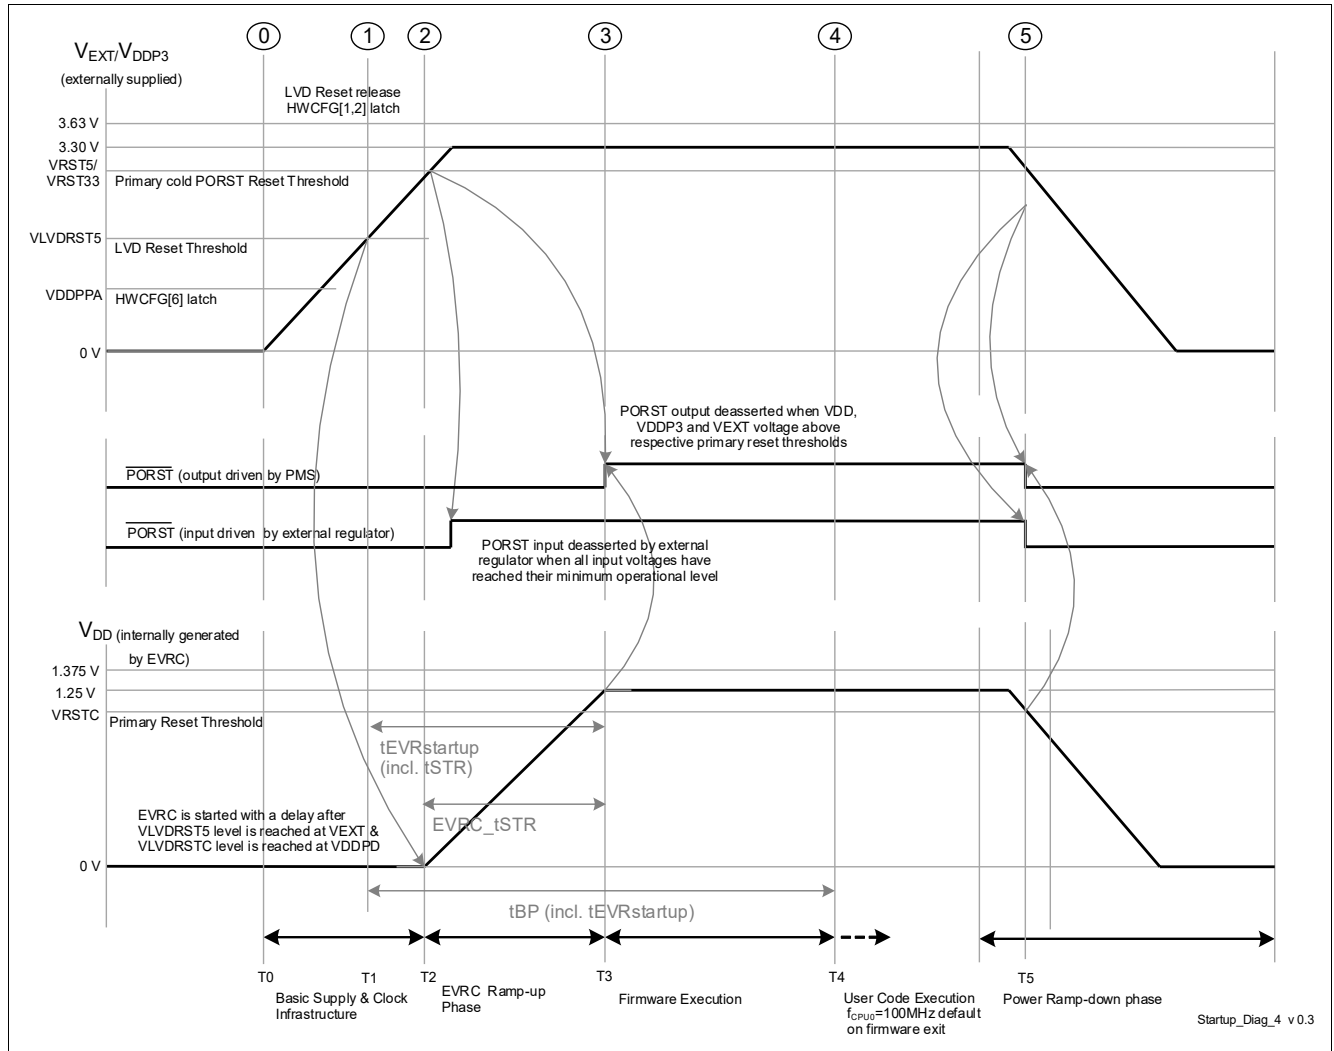

Figure 3-4 Single Supply mode (e) - (V_{EXT} & V_{DDP3}) 3.3 V single supply
- The power sequence as shown in Figure 3-4 is enumerated below